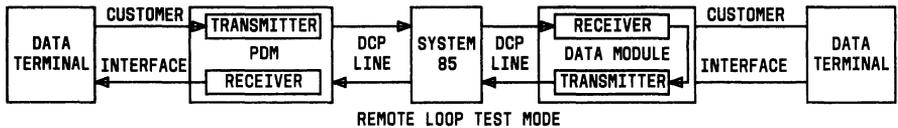

Fig. 11—Remote Loop Test Diagram
3.14 The remote loopback test (Fig. 11) is activated